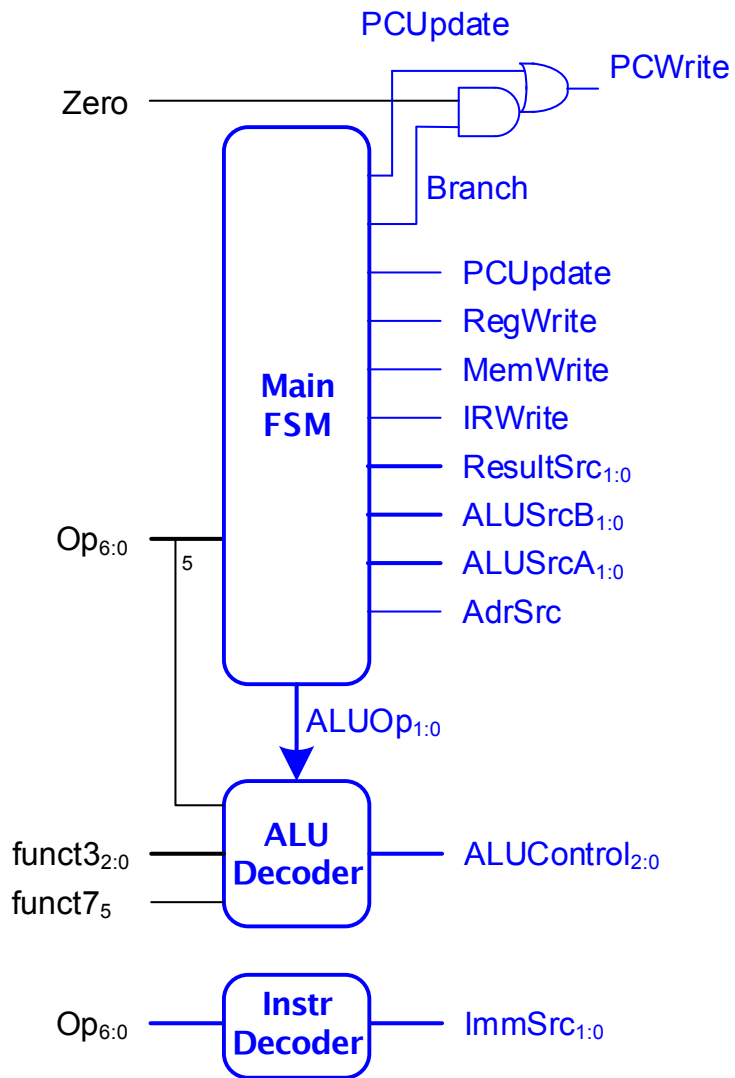

Fig. 1 Multicycle control unit
- Figure 1 shows the multicycle controller block diagram
The controller should have the following module declaration and should follow the hierarchy of Figure 1. Remember that `op`, `funct3`, `funct7b5`, are bitfields of `Instr` and that `zero` is an output of the ALU.